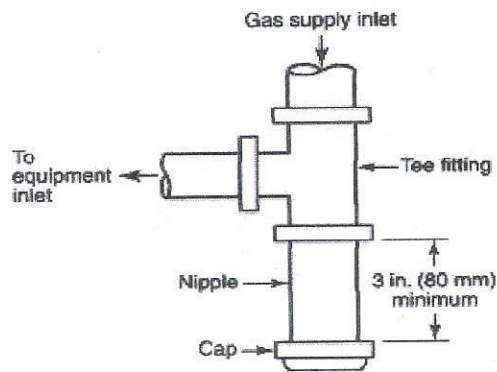

FIGURE 8.5.7 Method of Installing a Tee Fitting Sediment Trap.
8.5.7 Sediment Trap. Where a sediment trap is not incorporated as a part of the gas utilization equipment, a sediment trap shall be installed as close to the inlet of the equipment as practicable at the time of equipment installation. The sediment trap shall be either a tee fitting with a capped nipple in the bottom outlet as illustrated in Figure 8.5.7 or other device recognized as an effective sediment trap. Illuminating appliances, ranges, clothes dryers, decorative appliances for installation in vented fireplaces, gas fireplaces, and outdoor grills shall not be required to be so equipped.